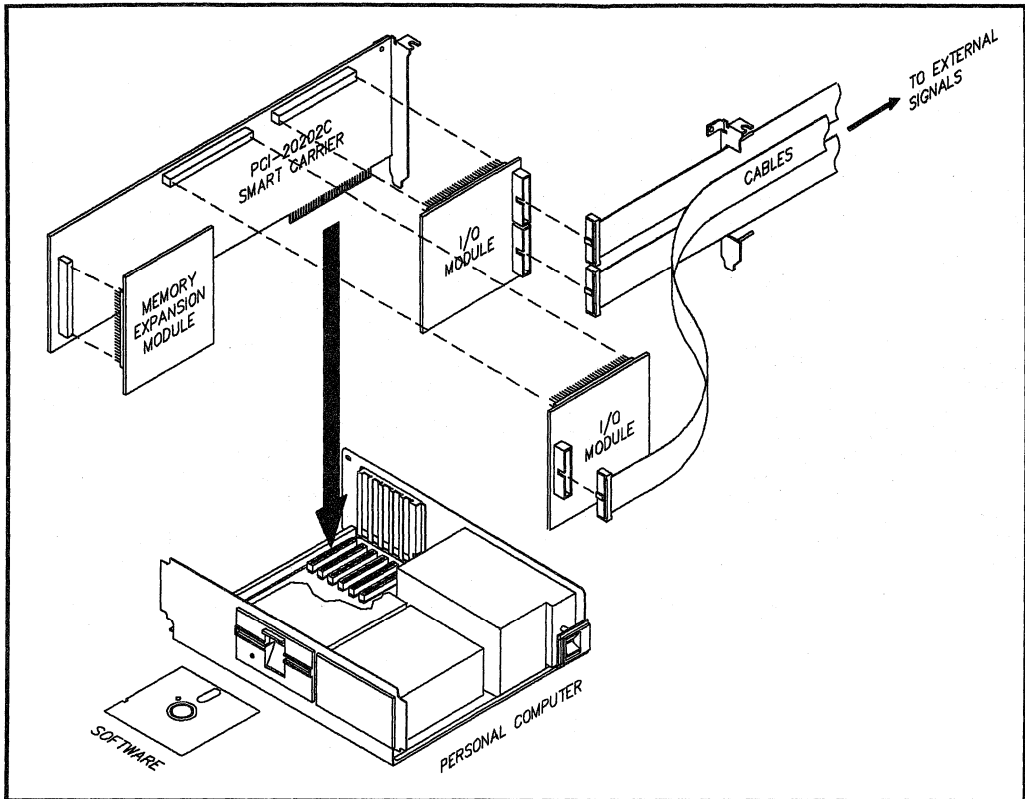

FIGURE 1. PCI-20000 Hardware Configuration.
**PC Controlled Ultrasonic Welder** - One such data acquisition and control application was developed by DISTEC Hard- und Software GmbH, a small company in West Germany. They used this carrier in a system to monitor and control 16 ultrasonic welders in real-time. The hardware used to accomplish this task was the PCI-20202C-1 Smart Carrier, a PCI-20002M-1 16 channel Analog Input Module, and a PCI-20004M-1 32 Channel Digital I/O Module. See Figure 1.